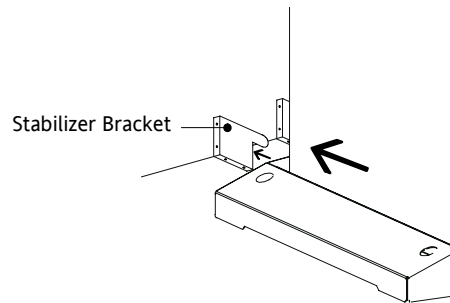

Figure 8. Stabilizer Bracket Installation
Each bracket has holes that enable it to be attached by screws to either the wall or the floor (or both) behind the intended cabinet installation (see Figure 8). The stabilizer brackets are not attached to the cabinet base itself.
2. Using the proper type of **customer-supplied screws** for the intended mounting surface, attach each bracket as shown in Figure 8. All screws must be driven into structural material such as wall studs.